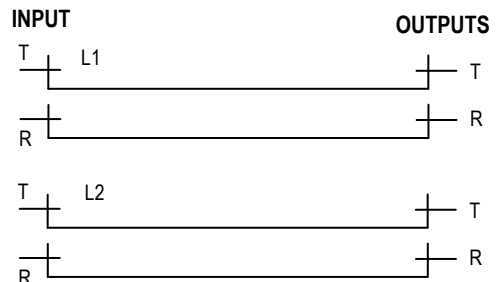

Figure 2
- TII 164 Series provides parallel connections with the following configurations (Figure 2):